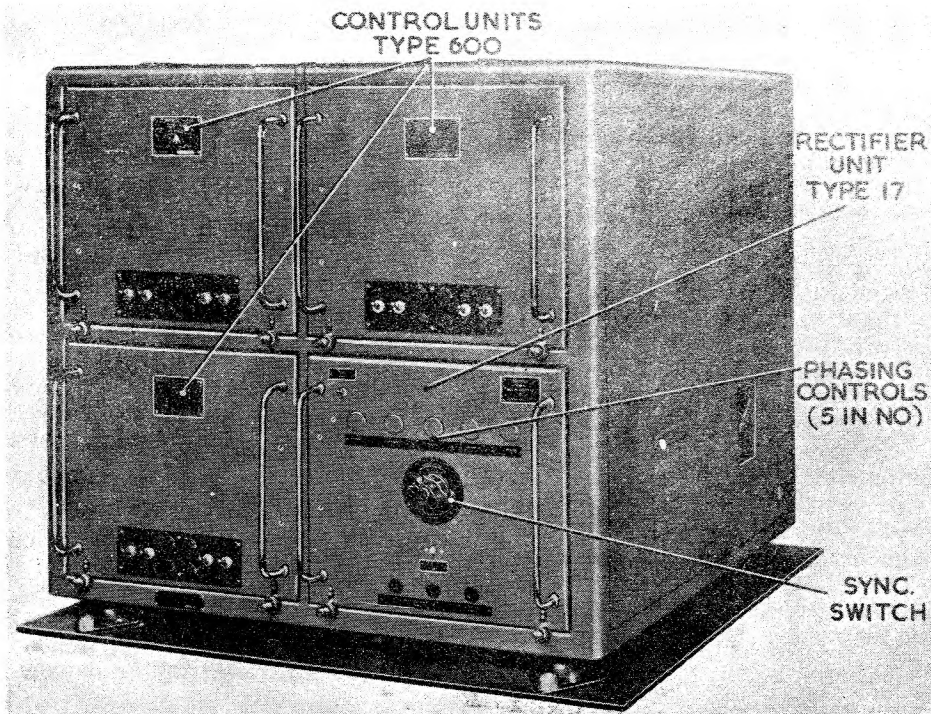

Fig. 1. Rack assembly Type 166
1. The rack assembly Type 166 is a symmetrically built rack having four spaces into which standard AIR MINISTRY chassis can be slid and locked in place. The arrangement consists of two vertical and two horizontal rows as shown in the illustration of the rack given in fig. 1.